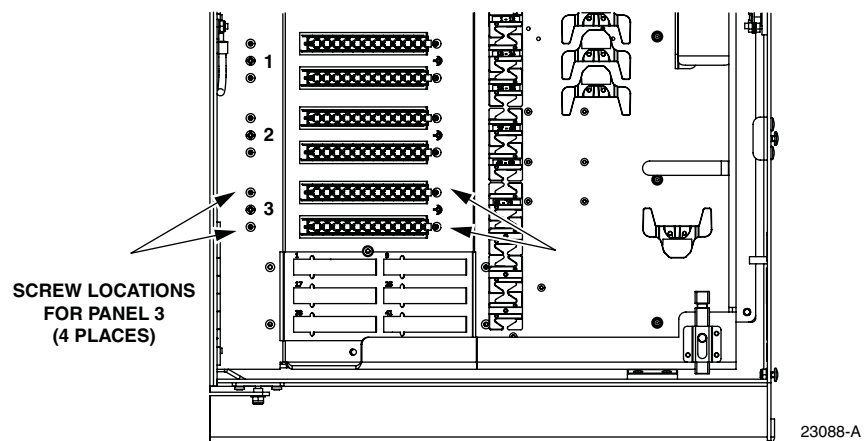

Figure 63. Securing Distribution Panel to Swingframe
3. Working from the front, use the four screws (provided with panel) to secure the front of the distribution panel to the swingframe as shown in Figure 63.